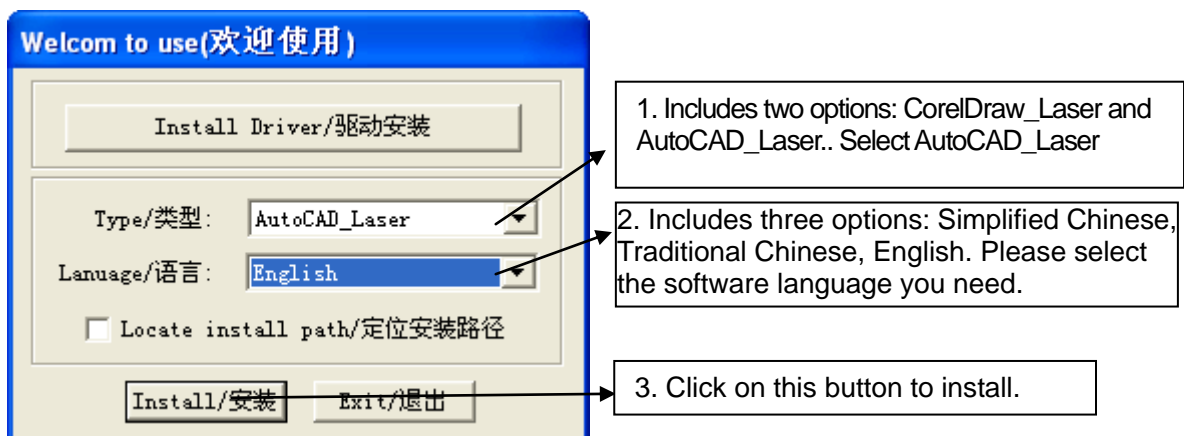
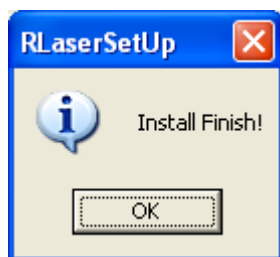

Figure 2-1 Software installation
Figure 2-2 Prompt of instillation completion
4. Double click on , the software installation menu will pop up as Figure 2-1:
As shown in figure 2-1, select AutoCAD_Laser, select software language, then click on the Install button, a prompt menu as shown in figure 2-2 will pop up to show successful installation.: